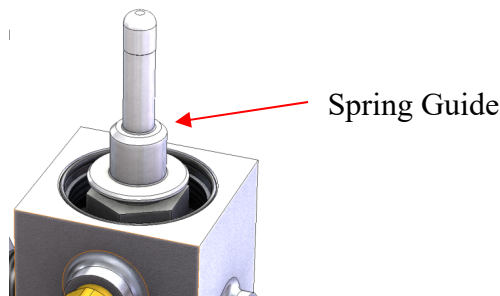

Figure 49: Spring Guide atop the Disk
- 10. Place the spring guide on top of the disk as shown in Figure 49.